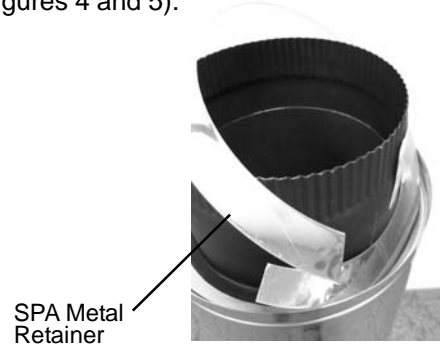

Figure 4
3. Wrap the metal retainer around the SPA stub and under the inward bead found on the inlet end of the outer chimney casing (figures 4 and 5).